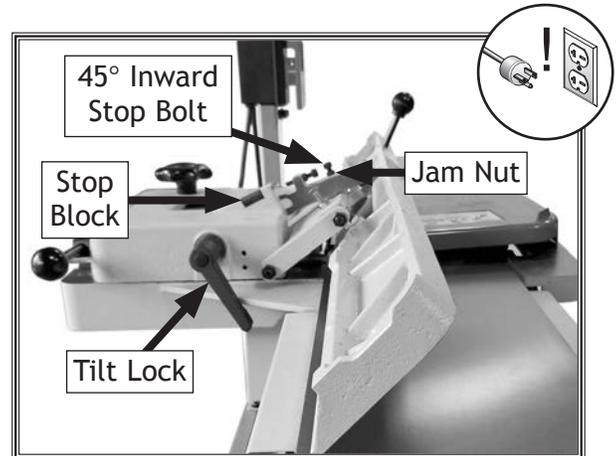

Figure 52. Fence set to 45° inward.
2. Loosen fence tilt lock, rotate stop block up, then tilt fence approximately 45° inward onto stop bolt (see **Figure 52**).
4. Loosen jam nut on 45° stop bolt and adjust stop bolt until fence is exactly 45° inward while resting on stop bolt (see **Figure 52**). Verify angle, then retighten jam nut.